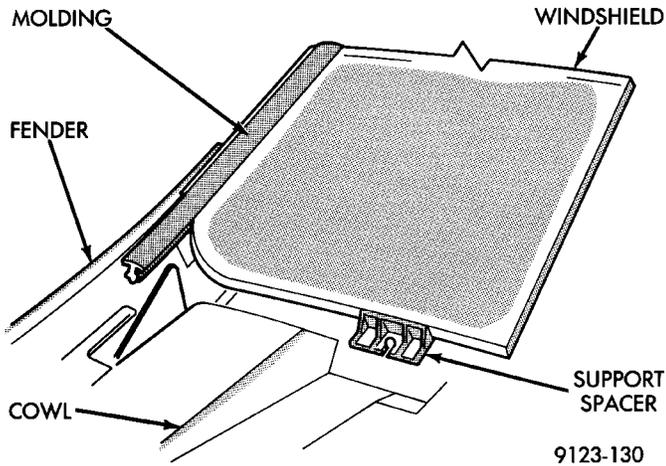

Fig. 1 Windshield Molding
- (1) Remove inside rear view mirror.
- (2) Remove windshield wiper arms.
- (3) Remove cowl cover.
- (4) Place protective covers over instrument panel and hood.
- (5) Remove windshield moldings (Fig. 1) using a suitable hook tool and trim stick.